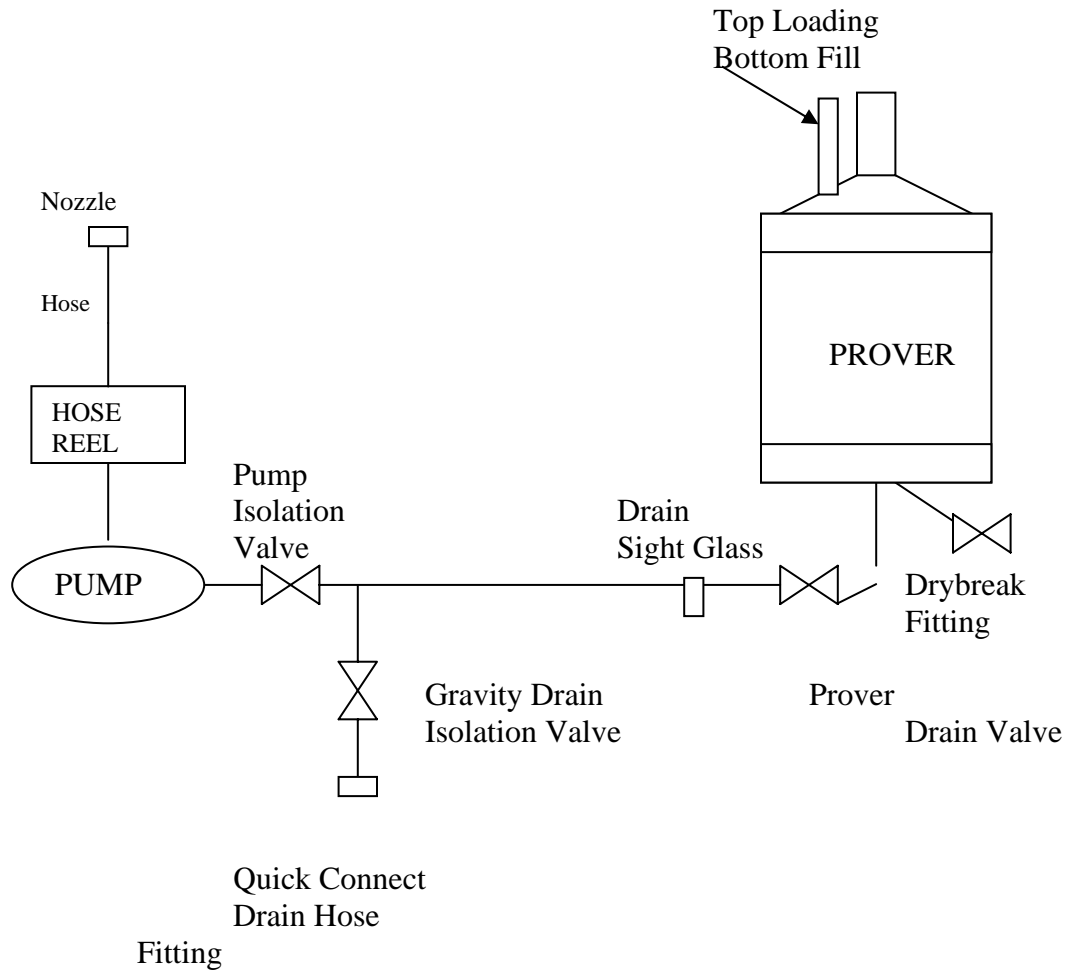

FIGURE 1
**Figure 1** is a schematic diagram of the Mobile Prover System piping. Component parts including valves and fittings are labeled. Refer to Figure 1, on page 7, when aligning the system for filling or draining.